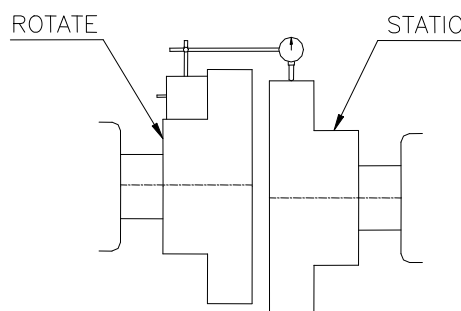

Fig. 3b
- ◆ **Using dial gauge (fig 3b):** Fix dial gauge on hub OD of one of the halves & set plunger on the flange OD of another half. Rotate the coupling slowly to one complete revolution by taking dial gauge reading at 4 places 90° apart. The parallel misalignment is half of the Total Indicated Reading (TIR) of dial gauge which is equal to value of 'P' given in Table 'C1'.